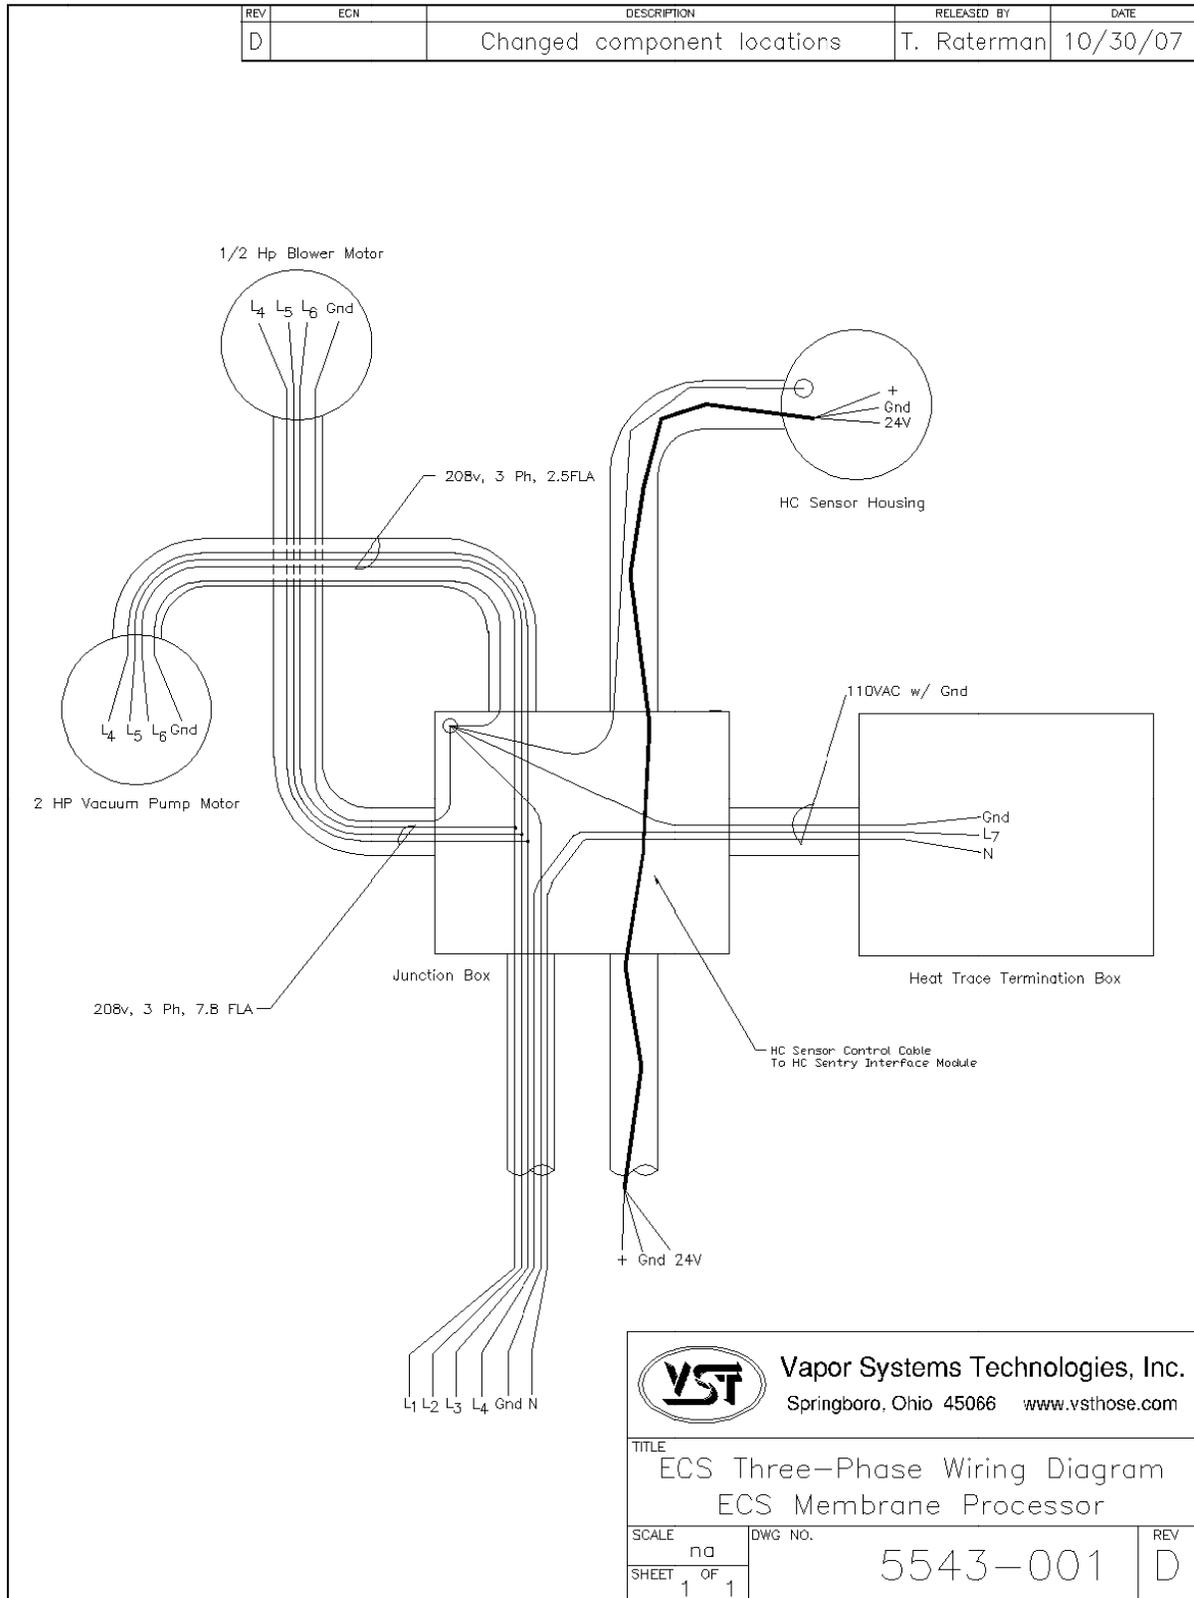

Figure 20: Processor Three-Phase Wiring Schematic
- ▶ **See Figure 20: Section 14 / Page 59.**